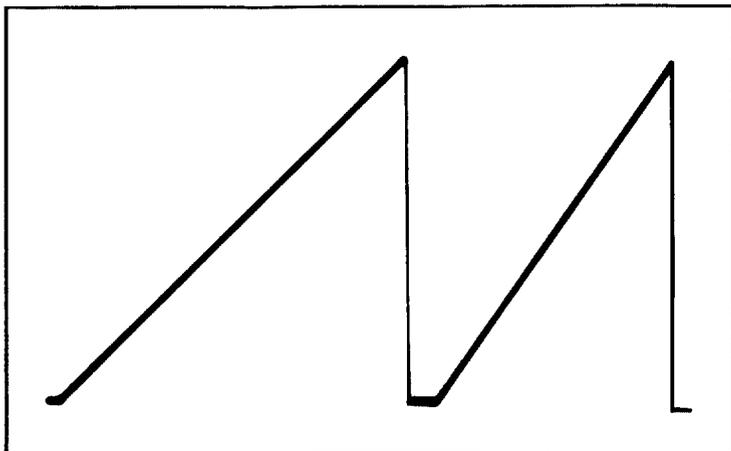

FIGURE 41. 0V TO +10V SWEEP RAMP AT A16TP3
5. Set Oscilloscope Trigger Level and Persistence as necessary to display full sweep ramp, starting at a convenient point on graticule. Adjust A16R67 SWEEP TIME adjustment for a ramp of 500 msec duration. Refer to Figure 41 for a typical display.